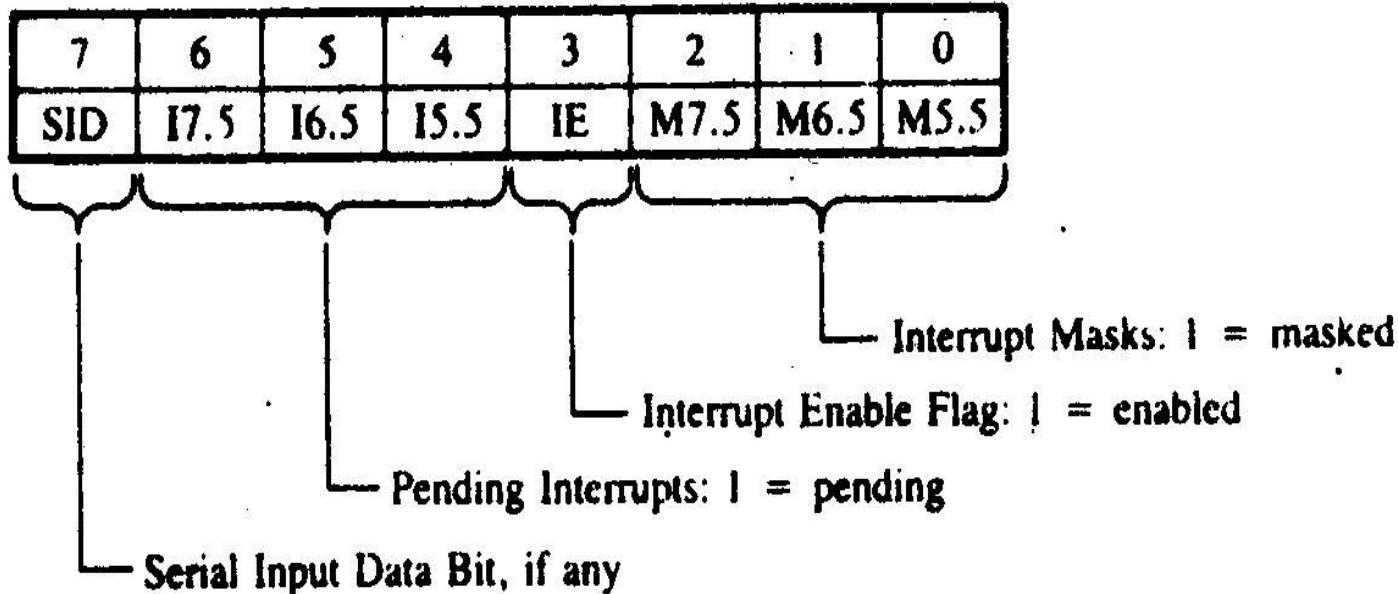

FIGURE 12.7
When one interrupt request is being served, other interrupt request may occur and remain pending. The 8085 has an additional instruction call RIM (Read Interrupt Mask) to sense these pending interrupts (Figure 12.7).
- ❑ To read interrupt masks, This instruction loads the accumulator with 8 bits indicating the current status of the interrupt masks (Figure 12.7).
- ❑ To identify pending interrupts. Bits D₄, D₅, and D₆ (Figure 12.7) identify the pending interrupts.
- ❑ To receive serial data bit D₇ is used (Figure 12.7).